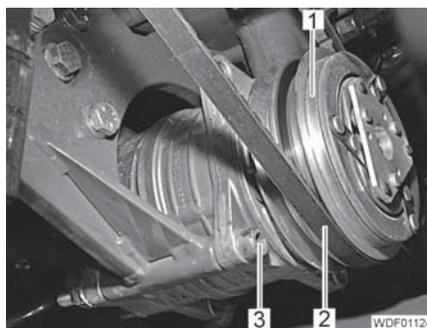

Fig. 406 Air-conditioning compressor attachment
- Unscrew the screw (Fig. 406,3).
- Remove the air-conditioning compressor (Fig. 406,1) from the V-belt (Fig. 406,2) and place to one side.
- Mount the air-conditioning compressor (Fig. 406,1) in the V-belt (Fig. 406,2) and attach.
- Screw in the screw (Fig. 406,3).
- Tighten the screw (Fig. 406,3).